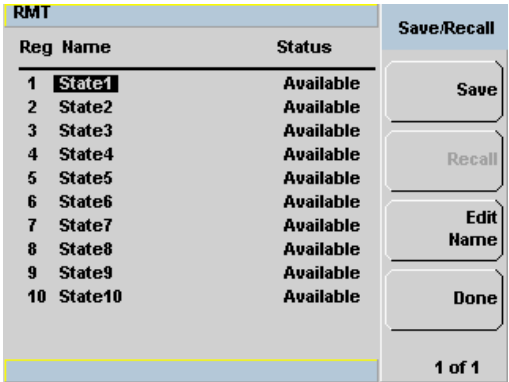

Figure 2-34 Save/Recall screen
- 1 Press , **Save/Recall** to display the **Save/Recall** screen as shown in Figure 2-34.